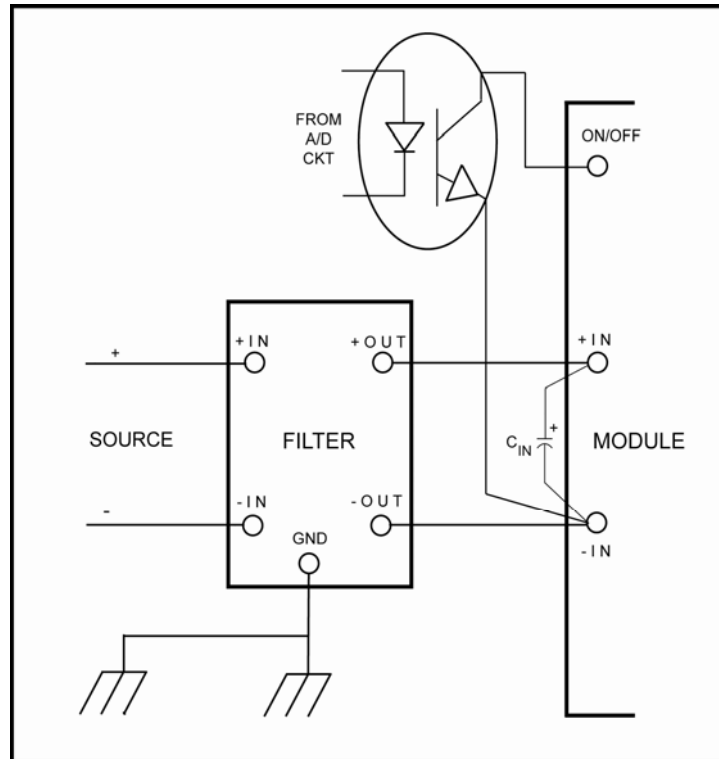
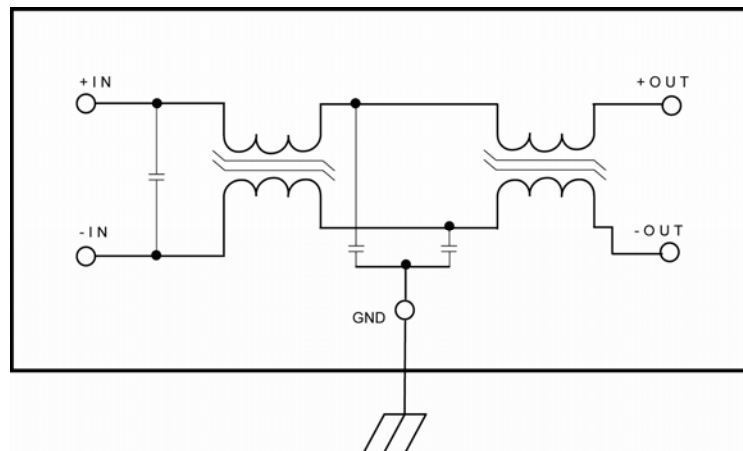

Figure 2. Use of the Shutdown Pin With Input Filters
Figure 3. Filter Block Schematic
**Fig. 2: F4810 - Differential mode attenuation, 0.2-100 MHz. Source and load resistances are 50 Ω. Vertical scale: 10 dB/div, with zero level marked by arrow. No load, 25 °C.**
**Fig. 3: F2410 - Differential mode attenuation, 0.2-100 MHz. Source and load resistance 50 Ω. Vertical scale: 10 dB/div, with zero level marked by arrow. No load, 25 °C.**
Differential attenuation plots for the F4810 and F2410 filters in the extended frequency range of 20 kHz-100 MHz are shown in Fig. 2 and Fig. 3, respectively, and can be seen to be flat (around 55-60 dB) from 0.35 MHz to 40 MHz.